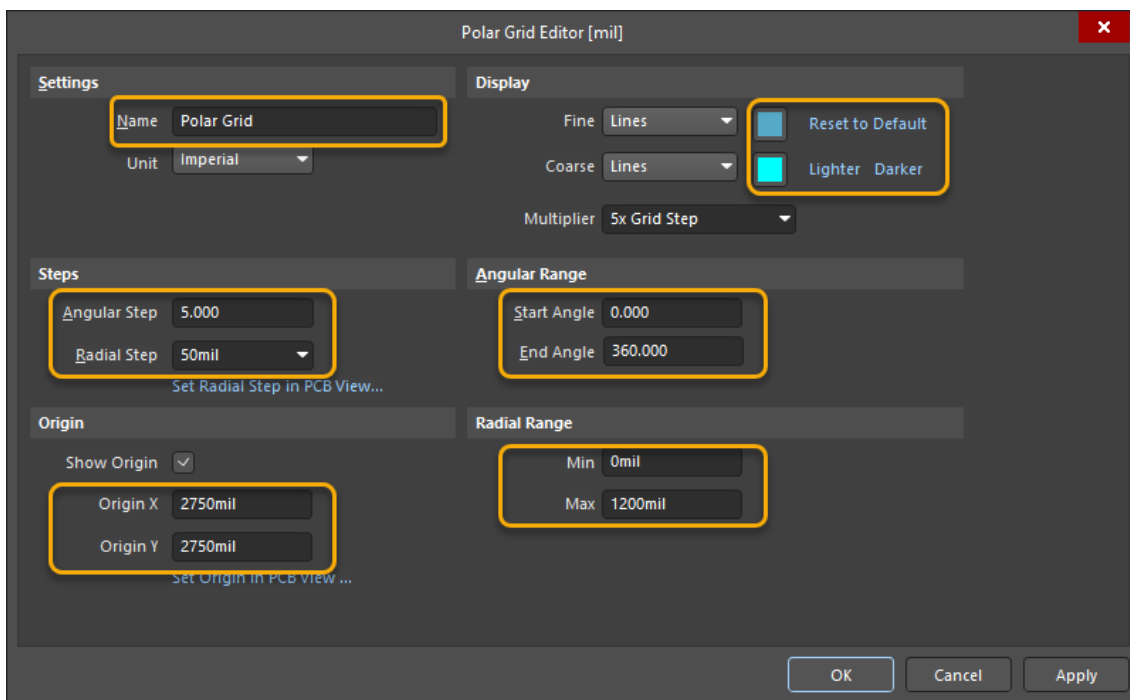

Figure 9. Polar Grid Editor
32. Double-click the *New Polar Grid* name to open the *Polar Grid Editor*. Set the values as shown in Figure 9 below. The *Fine* and *Coarse* line colors are assigned to values 106 and 107 respectively.